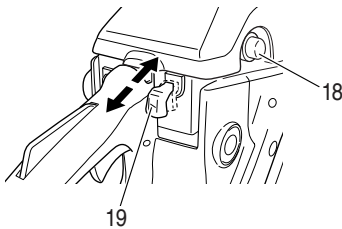

Fig. 14
3. Push priming pump (18) about ten times so that fuel flows into carburetor. (Fig. 14)
4. Pull the choke lever (19) fully (Fig. 14). This will automatically lock the throttle in starting position.
6. When you hear first ignition, push the choke lever (19) fully. (Fig. 14)